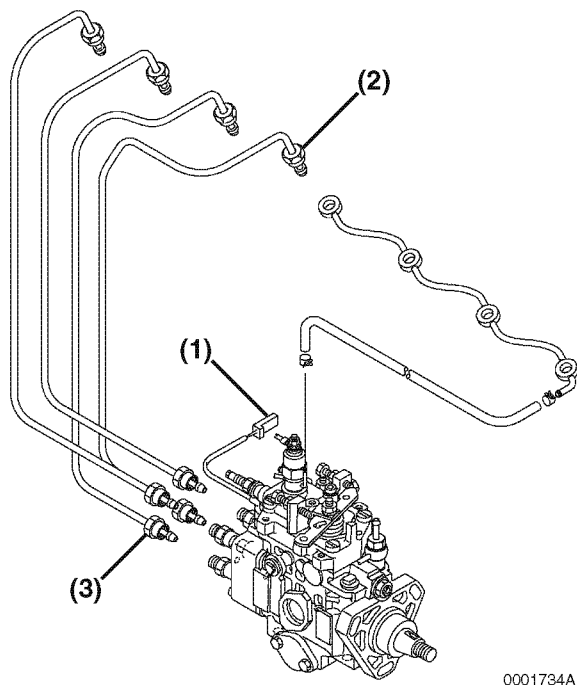

Figure 7-59
- First just loosen the high pressure fuel line nuts (**Figure 7-59, (2)**) at the fuel injectors.
- Then loosen the high pressure fuel line nuts (**Figure 7-59, (3)**) on the fuel injection pump.